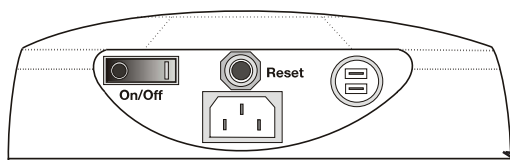

Figure: 2
2. Turn the unit on using the ON/OFF switch located on the control panel at the top of the unit. When finished, turn the switch to the OFF position again. A 5 second time delay is used to clear any debris from the hose or local piping network which may otherwise cause clogging. (See Figure. 2)